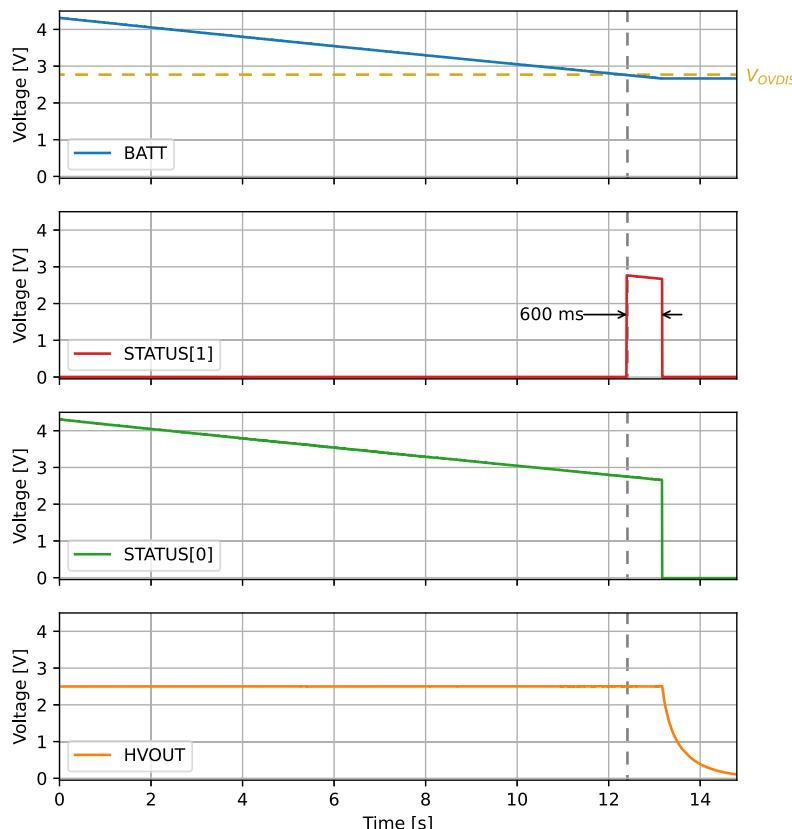

Figure 5: AEM20941 shutdown behavior
- Switch off the source and allow the system to discharge through quiescent current and any load(s) connected to **HVOUT/LVOUT**. A $50\ \text{k}\Omega$ load was connected to **HVOUT** to create the graphs shown on Figure 5.
Referring to Figure 5:
- 600 ms after crossing V_{OVDIS} , the storage element is no longer discharged as **HVOUT**, with its $50\ \text{k}\Omega$ load, is no longer supplied, so **BATT** voltage then remains stable. At that moment, **STATUS[0]** and **STATUS[1]** are both de-asserted. Figure 5 shows only the behavior of **HVOUT**, but **LVOUT** behaves the same in those conditions.